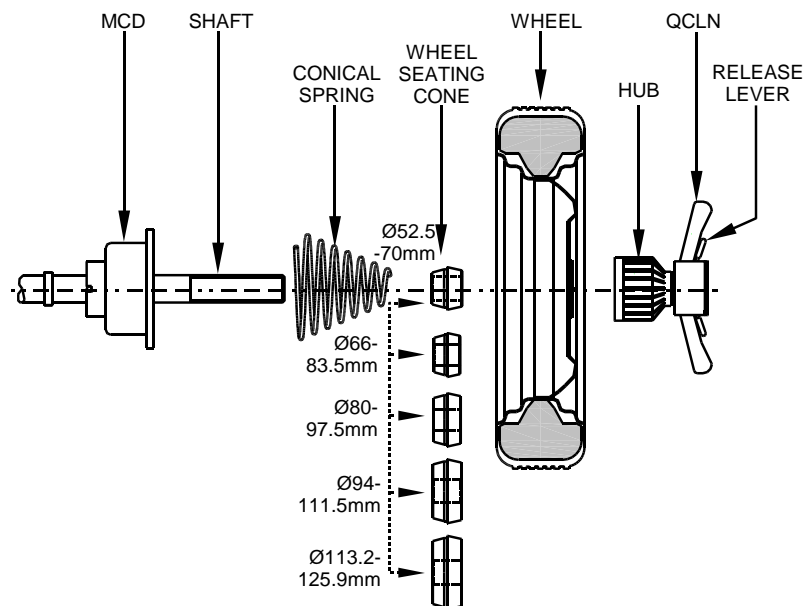

Fig. 13
- Slide the Wheel seating cone on to the MCD shaft with its larger diameter butting against the MCD face as shown in Fig.13.